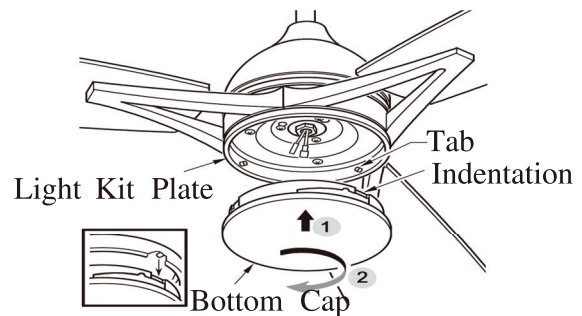

FIG.15
3.Line up slot in bottom cap with tab on light kit plate and turn clockwise until it locks in place and is firm.(See Fig.15)